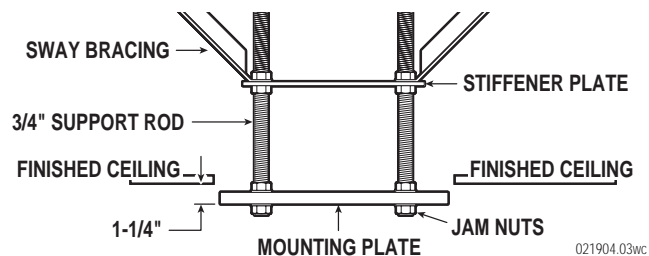

Figure 1. Mounting Plate Installation
b. Install the SKYTRON mounting plate on the threaded rods between jam nuts. The plate should normally be located 1-1/4" off the finished ceiling (measured from the bottom of the plate) and accurately leveled, within 0.1 degree, using a digital level. Tighten the jam nuts securely. See figure 1.